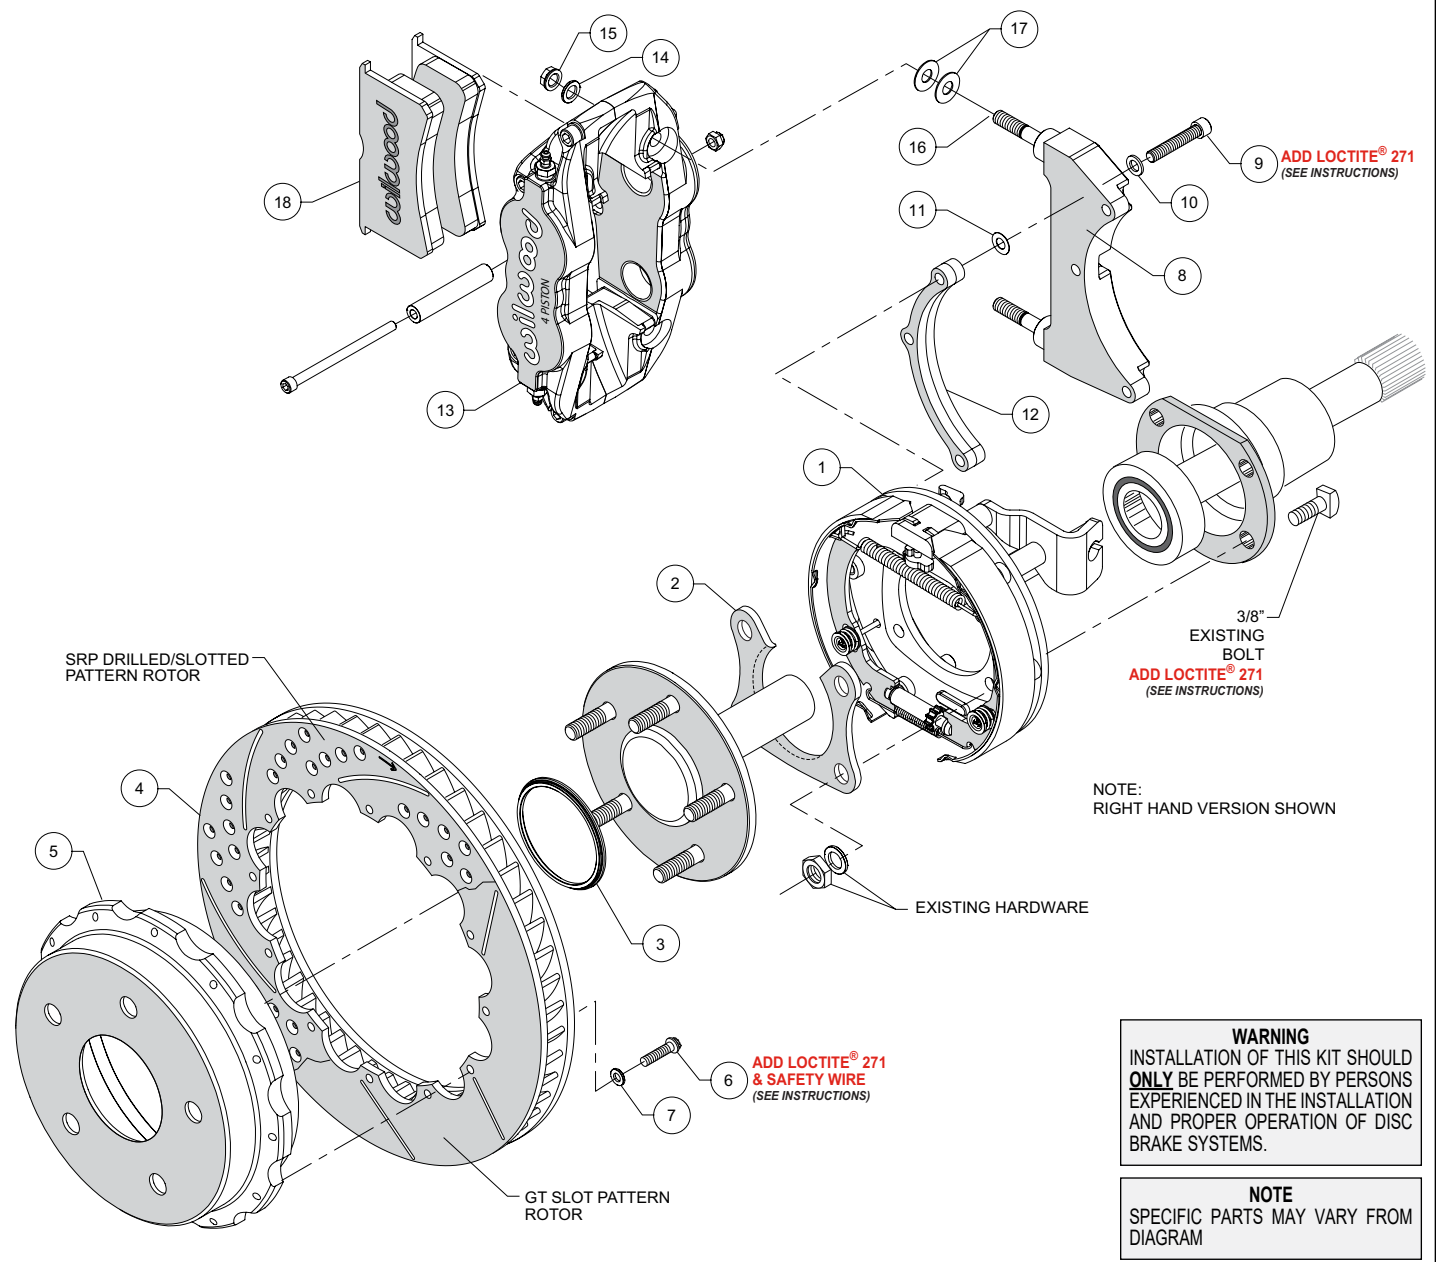
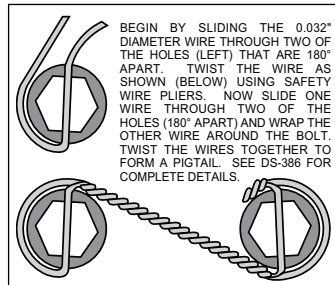

Figure 1. Typical Installation Configuration
Figure 5. Safety Wire Diagram
Assembly Instructions (numbers in parenthesis refer to the parts list, and Figure 1 on the preceding pages): **CAUTION:** All mounting bolts must fully engage clinch nuts. Be sure to check that all bolts are either flush or protruding through flanged side of clinch nut after shimming.
- Orient the bracket assembly (1) as shown in Figure 1 and Photo 1 and slide it onto the axle. Insert the axle and bracket into the axle housing. Ensure that the bracket assembly backing plate fits flush against the axle housing flange.
- Install the bearing retainer (2) with the opening pointing upward and the lip facing inward (toward the bearing), as shown in Figures 1 and 4, and Photo 2. Secure retainer and bracket assembly to the axle housing flange using the Original Equipment Manufacturer (OEM) bolts, washers, and nuts, Figure 1. Apply red *Loctite*® 271 to the OEM bolt threads and torque to OEM specifications.
•**NOTE:** Please reference the caution statement at the beginning of the assembly instructions. The caliper mounting bracket (8) should initially be installed with clean, dry threads on the mounting bolts. Orient the bracket as shown in Figure 1 and Photo 3, and install using bolts (9) and flat washers (10). Initially place one .015" shim washer (11) on each bolt between the bracket (8) and spacer (12), Figure 1. Temporarily tighten the mounting bolts. **NOTE:** End of bolt should not exceed inside face of insert. The bracket must tighten squarely against the back side of the bracket kit assembly (1). Inspect for interference from casting irregularities, machining ridges, burrs, etc. Later, after the caliper alignment has been checked, the mount bolts will be secured using red *Loctite*®.
•Orient the rotor (4) and the hat (5) as shown in Figure 1 and Photo 3. Attach rotor to hat using bolts (6) and washers (7). Apply red *Loctite*® 271 to the bolt threads and torque to 140 **in-lbs** using a criss-cross pattern. For an added measure of security, the bolts may be safety wired using standard 0.032 inch diameter stainless steel safety wire as shown in Figure 5. Please refer to Wilwood's data sheet DS-386 (available at www.wilwood.com/Pdf/DataSheets/ds386.pdf) for complete safety wire installation instructions.
•Slide the rotor registration adapter (3) onto the axle register on the axle flange with the smaller O.D. facing toward the rotor/hat (4/5), Photo 5. Align the hole pattern in the hat with the stud pattern on the axle flange and slide into place, Figure 1 and Photo 6. **NOTE:** The rotor/hat must fit flush against the axle flange or excessive rotor run out may result. Install three lug nuts (finger tight) to keep the rotor/hat assembly in place while continuing with the installation. **NOTE:** Some OEM and after market axles come with stud sizes larger than 0.50" diameter. Verify stud size and have a qualified machine shop drill the bolt circle of the hat/rotor to the correct stud size, if necessary.
•Initially place two .035" thick shims (17) on each stud as shown in Figure 1 and Photo 7. Mount the caliper (13) onto the bracket (8) using lock nuts (15) and washers (14), Figure 1. Temporarily tighten the lock nuts and view the rotor through the top opening of the caliper. The rotor should be centered in the caliper, Photo 8. If not, adjust by adding or subtracting shims (11) between the bracket (8) and the spacer (12). Always use the same amount of shims on each of the three mounting bolts. Once the caliper alignment is correct, remove the bracket mounting bolts (9) one at a time, apply red *Loctite*® 271 to the threads, and torque to 180 **in-lb**.